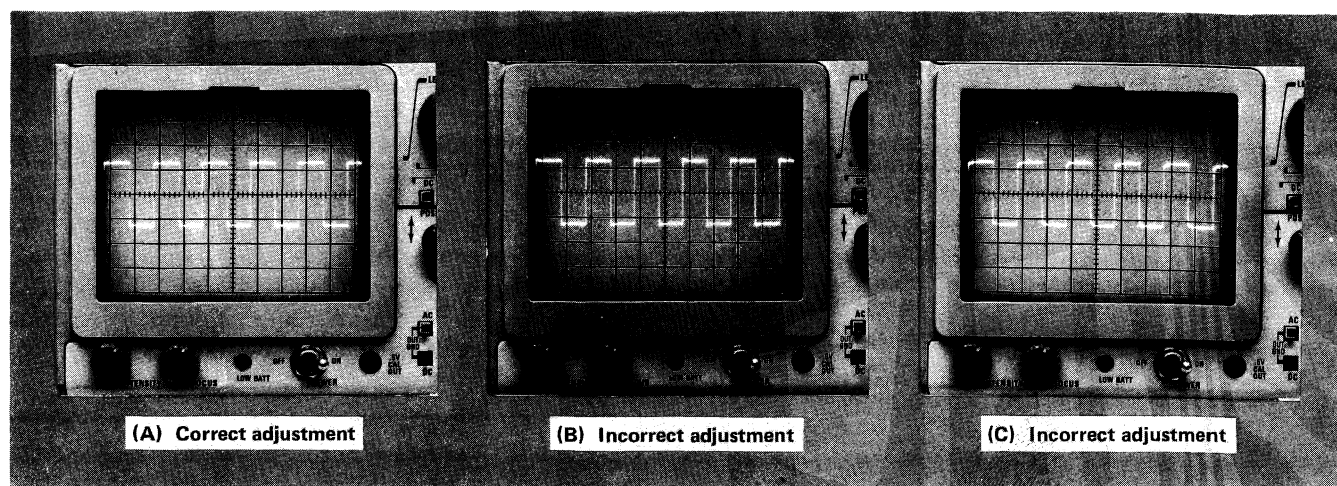

Fig. 5-3. Input capacitance check, typical displays.
c. CHECK—CRT display for 0.2 division, or less, of overshoot or rounding (47 pF,  $\pm 4$  pF; see Fig. 5-3).